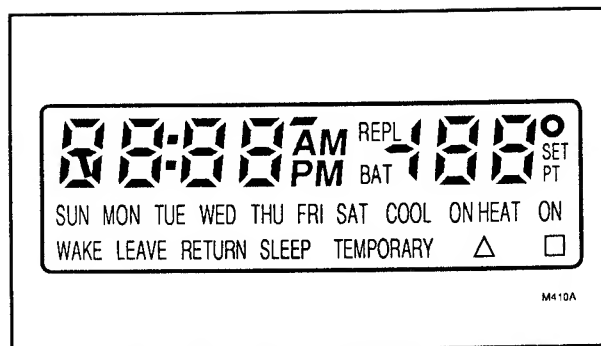

FIG. 53—ALL SEGMENTS ON DISPLAY.
1. Press AHEAD and BACK keys at the same time. While holding keys down, all segments of the display should be on Fig. 53).